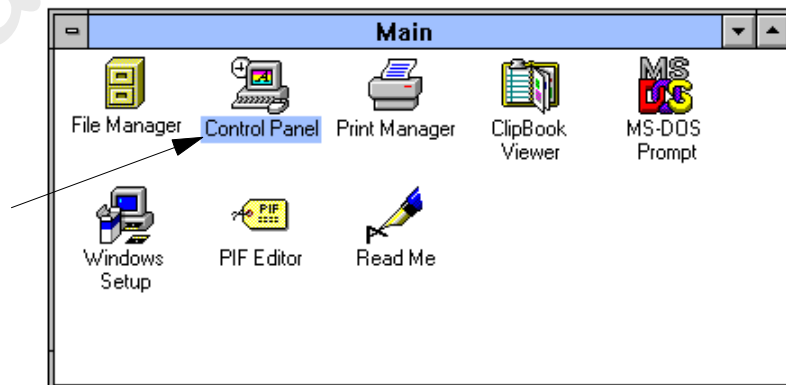
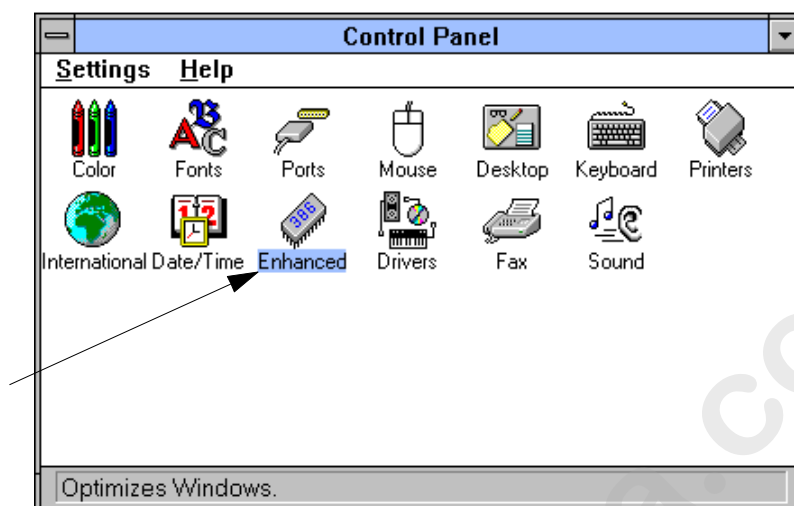

Figure 1.18. Main Group
Figure 1.19. Control Panel Group
1. Plug the male end (pins) of a data cable into one side of the “Y” connector cable assembly, 1A, 1B, 2A, or 2B. Refer to Figure 1.18.
Although two terminators are provided with each LinkCard, this subsection explains how to construct your own terminator. Refer to Figure 1.18.
2. Double click the **Control Panel** item in the **Main** group (Figure 1.18). This brings up the **Control Panel** group (Figure 1.19).